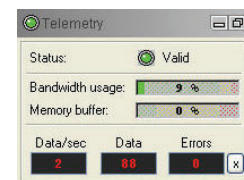

Figure 4-3 Telemetry panel
7. □ **During logging** observe the controls in the **Telemetry** panel (Figure 4-3):